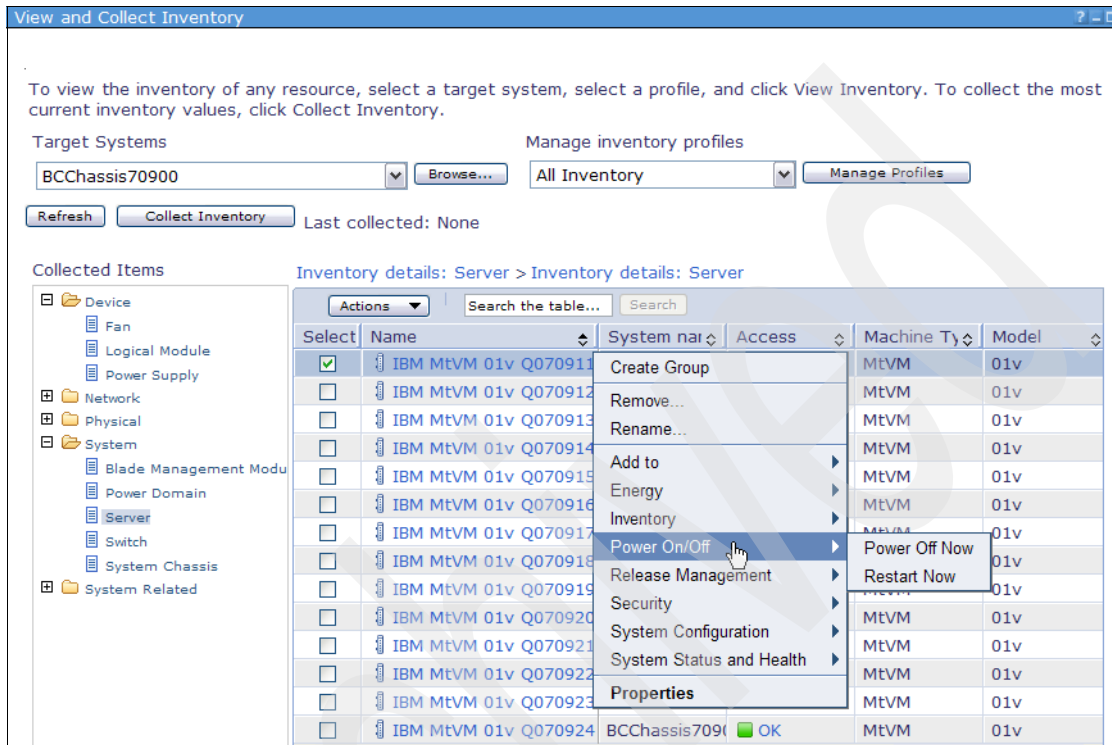
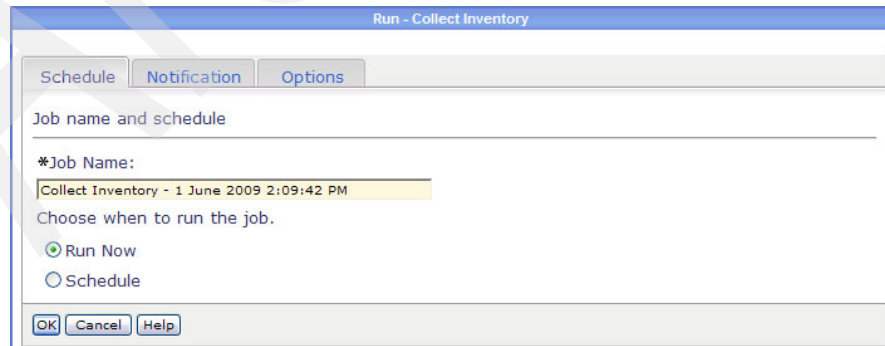

Figure 6-34 Using the context menu for an inventory item
Figure 6-35 Scheduling inventory collection
5. Instead of drilling down, you can also right-click the name of an inventory item, and select an option from the context menu, as shown in Figure 6-34. Notice the options to power on or power off the blade server.
6. If you click **Collect Inventory** in Figure 6-34, you can select to schedule the collection of inventory as shown in Figure 6-35.